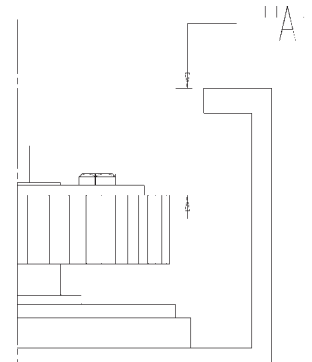

Fig. 4-2 Pulley installation location.
3. Install **pulley** onto spindle shaft and, using a flexible ruler, set top right side of spindle pulley 1 1/8" from top of head casting (Dimension "A" in Fig. 4-2), where tool release piston assembly normally sits.
7. Torque the screws a second time, now to 10 ft.-lb. The final height should be 1" with all bolts firmly tightened (Dimension "A" in Figs. 4-2, 4-3).